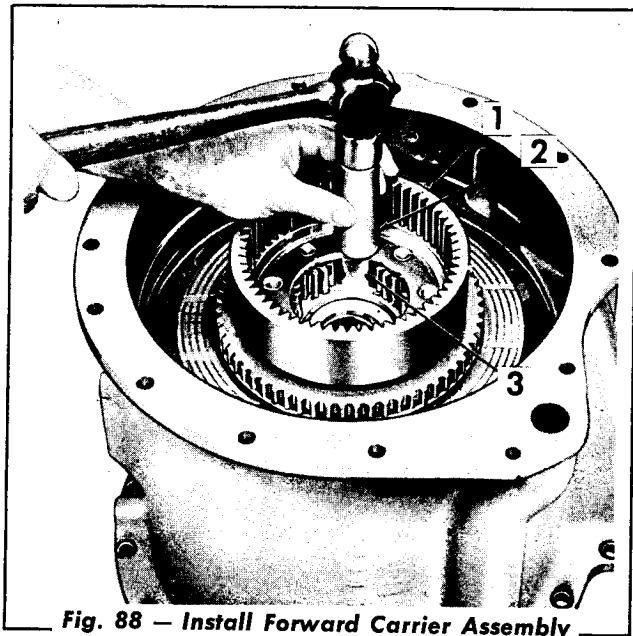

Fig. 88 — Install Forward Carrier Assembly
4. Install the forward carrier assembly (Fig. 88) aligning the pinions with the internal splines of the forward ring gear. Using a soft drift on the carrier web, seat the carrier in its bearing.